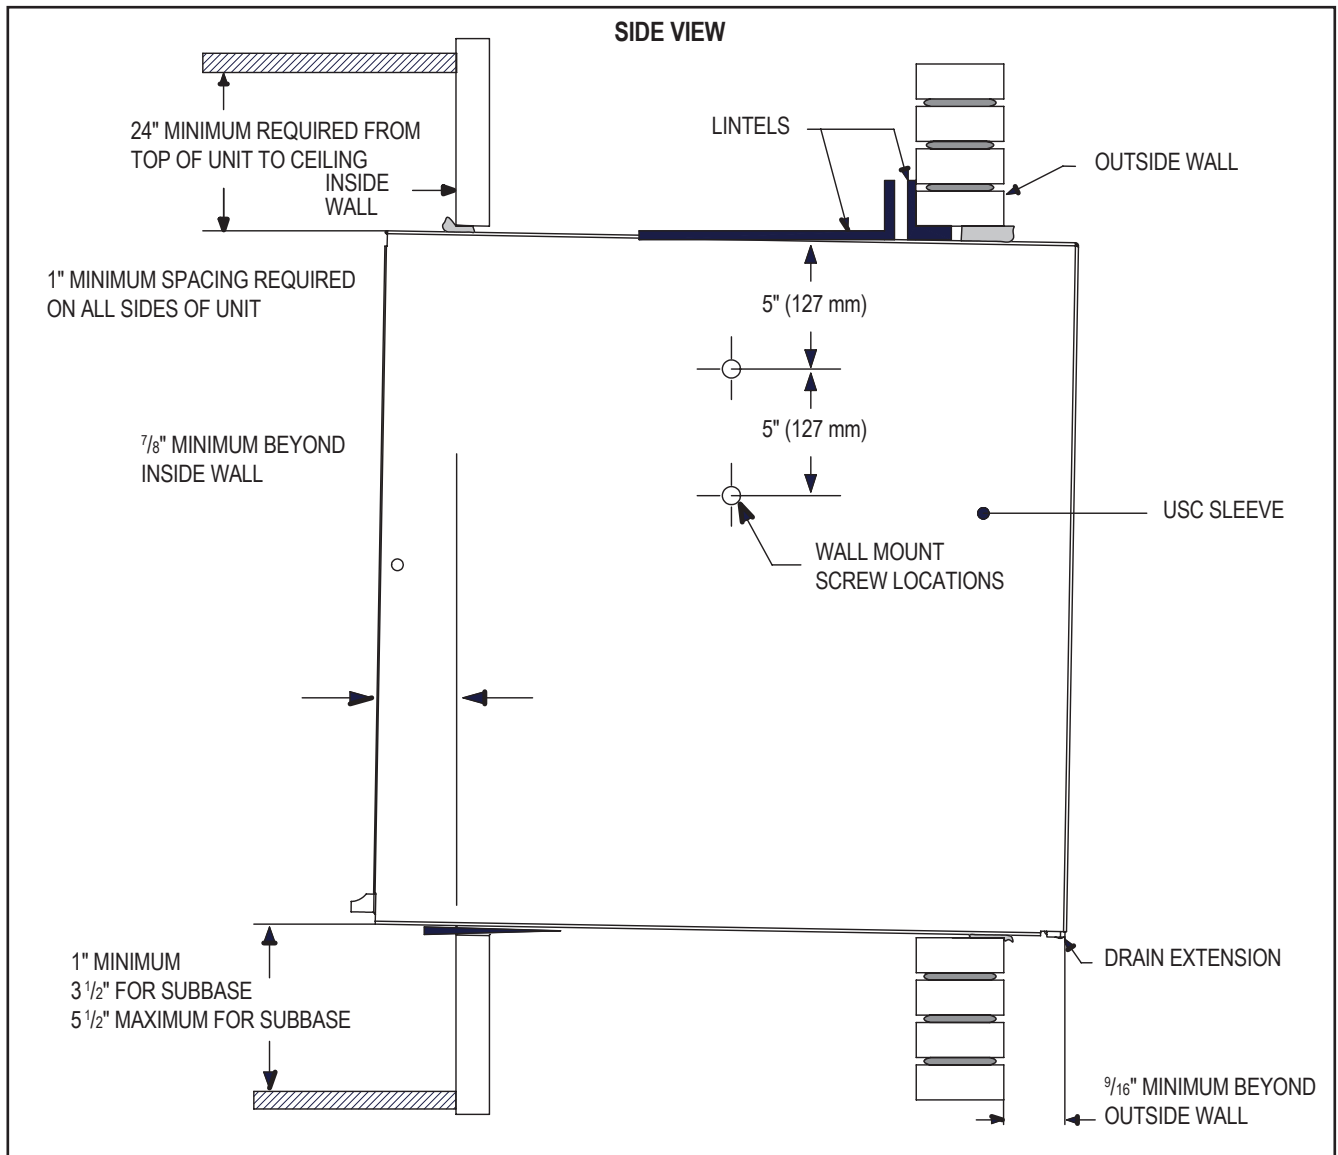

Figure C.4.1
STEP 1. The USC sleeve should be positioned so that the drain extension extends a minimum of 9/16 beyond the outside wall (see Figure C.4.1).